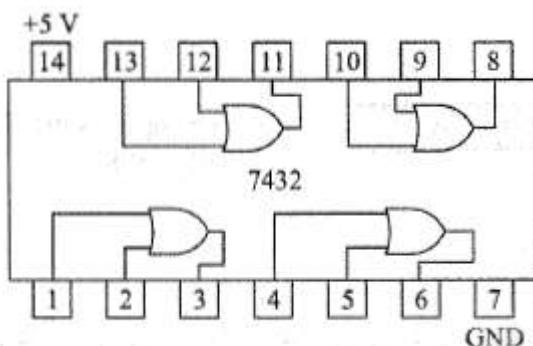

Figure 2.7: Pinout diagram of a 7432
- 7432 IC is a TTL quad 2-input OR gate (Figure 2.7).